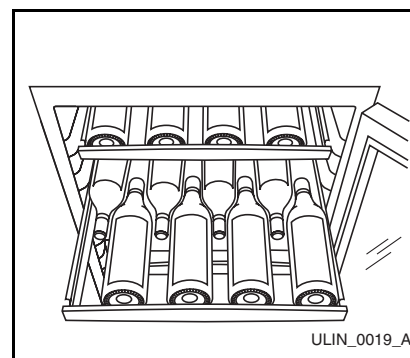

Figure 9
2. Repeat Step 1 to stock the next higher rack, and continue until all racks are filled (**Figure 9**).